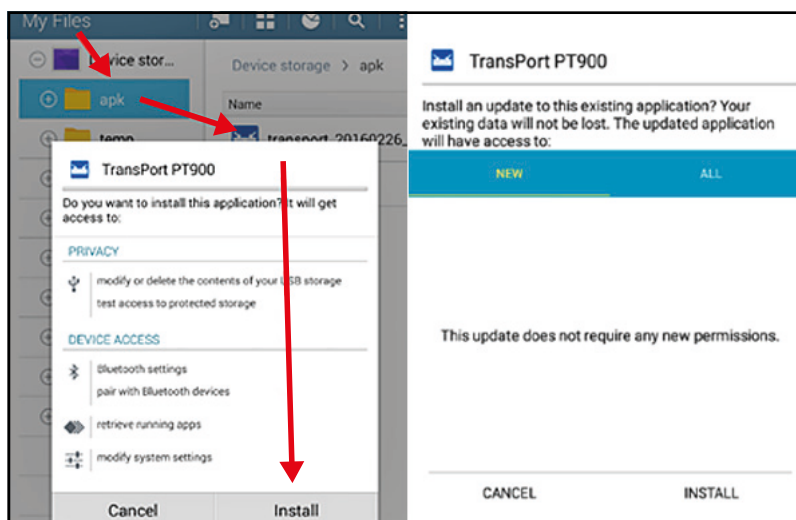

Figure 57: Initial (Left) and Update (Right) Installation Screens
- Click on the APK file, and the Android operating system will verify the checksum and signature for the file. Depending on whether this is an initial installation or an update installation, you will see one of the screens shown in Figure 57 below. Click INSTALL to begin the installation.